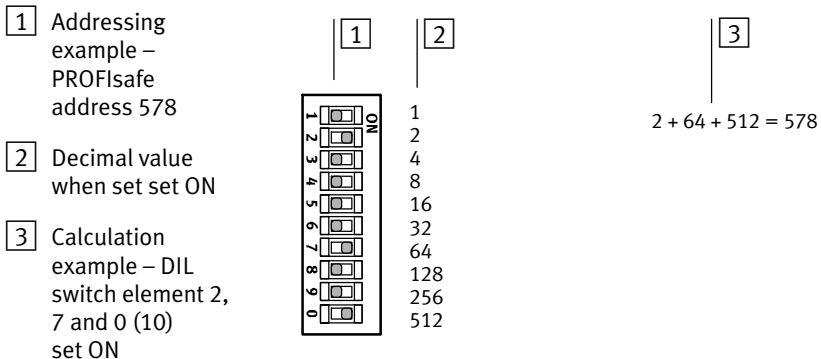

Fig. 2/2: 10-bit DIL switch for setting the PROFIsafe address – binary coded
3. Set PROFIsafe address on binary coded 10-bit DIL switch → Fig. 2/2.